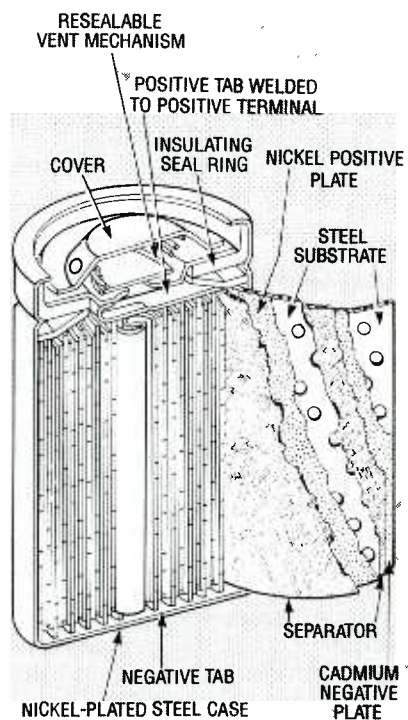

FIG. 2—NI-Cd CELLS EXHIBIT an internal resistance of 5-15 milliohms due to their construction, making stable current drain possible.
**FIG. 2—PARTS-PLACEMENT DIAGRAM.** Resistor R1 must be in a different location, depending on whether you're building an X- or K-band unit. Also, when aligning the unit, the strip line must be cut in a different location depending on the type of unit.
emitter leads are the only two that will exhibit a dead short from one to the other.) Cut off the left-hand emitter lead, as shown in Fig. 2.
After removing the extra lead, place the transistor in the hole on the board so that the base lead is on the strip line and the collector lead is on the positive bus, and solder them in place (see Fig. 2). Place R2 on the board and, keeping both leads as short as possible, solder one of its leads to the remaining emitter lead of Q1. The other resistor lead should go through the hole in the PC board, and soldered on both sides (a through hole, if you will). A scrap piece of component lead must go through the other hole on the left side of the board, and also soldered on both sides (another through hole).
Cut one lead of R1 so that it's 1/8-inch long. Refer to Fig. 2 for proper placement of R1 for either the X or K band. Then solder the shortened lead of R1 to the strip line so that the resistor is standing on end. The longer lead of the resistor should then be soldered to the positive bus of the PC board (see Fig. 2).
Attach the battery and switch as shown in Fig. 2, being careful not to reverse the polarity. Route wires away from the strip line and components, because stray wires can de-tune the oscillator. Construction is now complete and you are ready to tune the transmitter (see Fig. 3).
To align the unit, you will need a radar detector and an X-acto knife with a fine blade. Turn on the radar detector and the tester. Now make an initial cut in the strip line starting at the point specified in Fig. 2, for either the X- or K-band unit. Be sure to cut all the way across and through the copper trace. If your detector does not sound an alarm, make another cut about 1/16-inch closer to the transistor. At some point your detector will sound an alarm, and the tester will be properly tuned. Be careful not to cut too much at one time, because if you go too far you will have to carefully solder the line back together.
isolating the electrodes goes in a steel can used as the negative terminal, and is filled with electrolyte that transmits mobile charge. The steel it's sealed in is used as the positive terminal, as shown in Fig. 2.